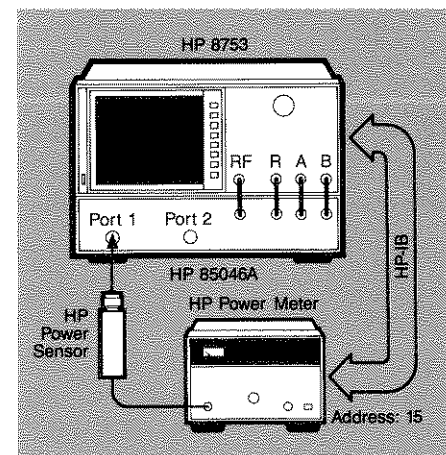

Figure 14. Setup for power meter calibration at amplifier input.
5B. (Optional for the HP 8753B only) For increased accuracy, also perform a power meter calibration at port 1 to remove source and test set non-linearities with frequency. Attach the HP 438A power meter to port 1 of the test set. Also, connect HP-IB as shown in Figure 14. Make sure the power meter model and address is known by the HP 8753. Before proceeding, zero the power meter.
1. Connect the instrument as shown in Figure 14 and preset the instrument. Channel 1 will display the amplifier's response to a power ramp. Channel 2 will display amplifier output power to allow easy determination of the 1 dB gain compression output power.